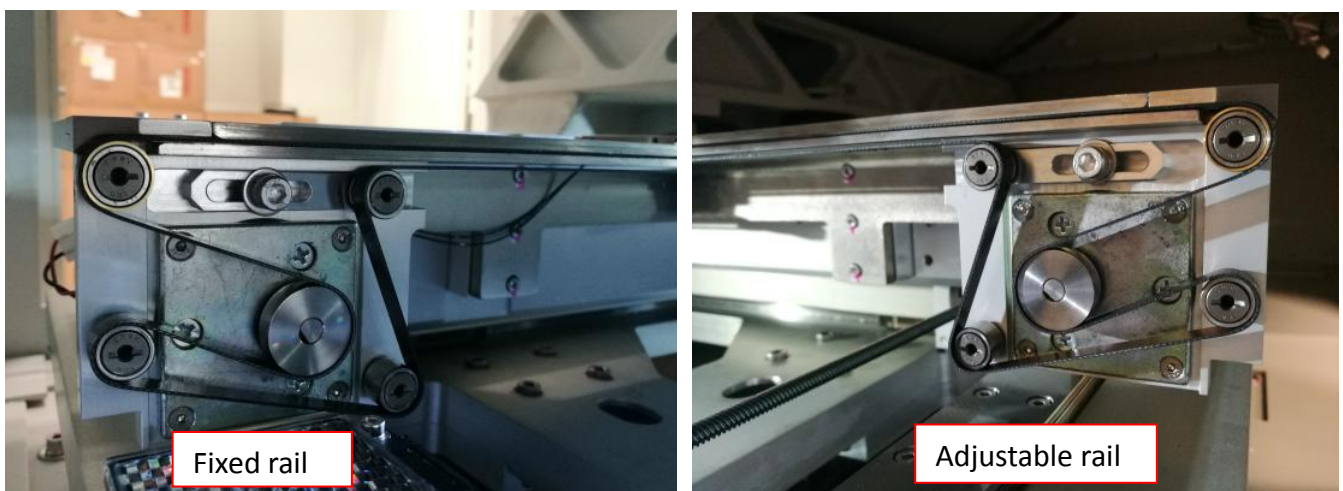

Figure 2 Conveyor Motor Location
4. Identify Defective Conveyor Motor Location by refer to below Figure 2.